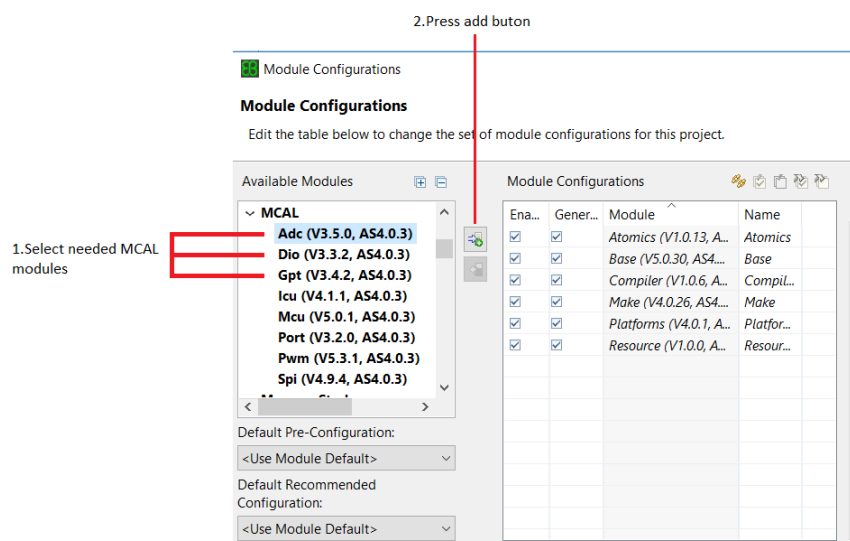

Figure 5.2. Add Mcal Module
- ▶ Add the needed MCAL modules to the project configuration. see Figure 5.2, “Add Mcal Module”